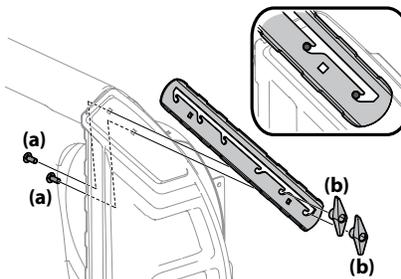

Figure 2-48
1. Loosen the two carriage bolts (a) and wing nuts (b) that secure each drift cutter to the sides of auger housing. See Figure 2-48.